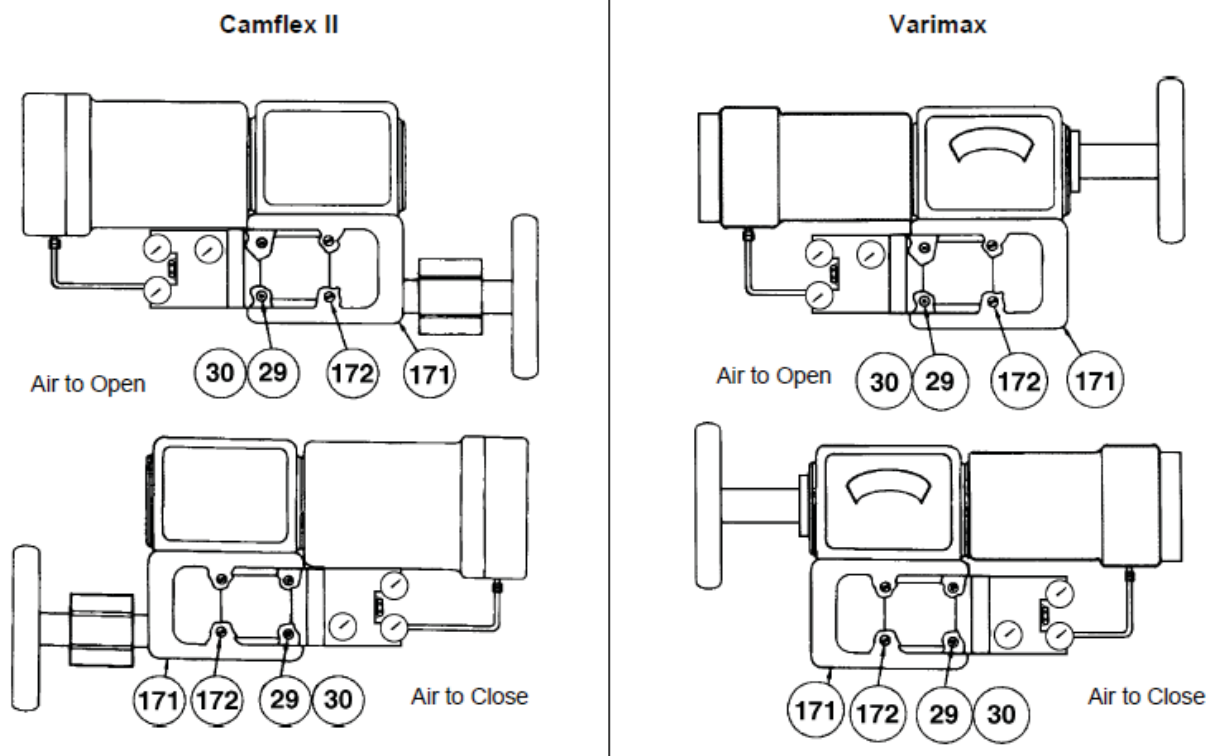

Figure 8 Camflex II and Varimax
The positioner is mounted to an intermediate plate (171) by two screws (29) and lockwashers (30) with the gauges nearest the actuator on Camflex and Varimax (Figure 8) and with gauges away from actuator on Ball II (Figure 9), MiniTork II (Figure 9), and HPBV (Figure 10). The intermediate mounting plate (171) is held by two flat-head screws (172) to the bracket.
For detail of Positioner Mounting Parts, see Figure 8.